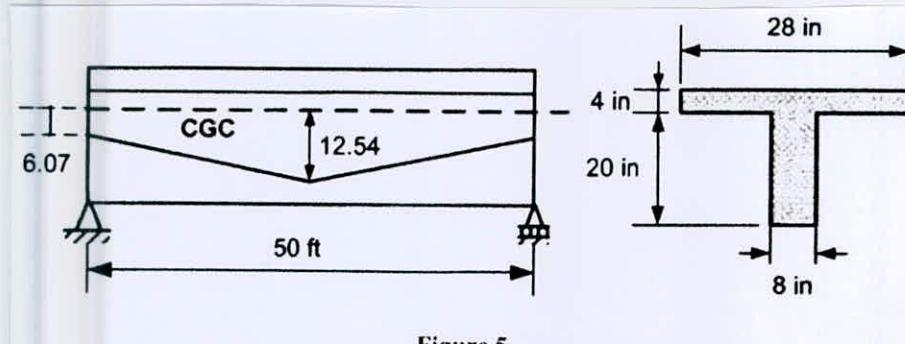

Figure 5
5. Consider the simple supported T beam shown in Figure 5. The live load is assumed to be 600 plf. The following design information is given. Normal weight of concrete with unit weight = 150 pcf, $f'_c = 8000 \text{ psi}$; $f'_{ci} = 5600 \text{ psi}$; ultimate creep coefficient $C_{CU} = 2.2$. The prestressing steel consists of half-inch diameter strands: $f_{pu} = 270 \text{ ksi}$, $f_{pe} = 150 \text{ ksi}$; $f_{py} = 240 \text{ ksi}$; $\eta = 0.80$; $d_{cmin} = 3 \text{ in.}$ Section properties: $A_c = 272 \text{ in}^2$, $I_g = 14970 \text{ in}^4$, $y_t = 9.06 \text{ in}$; $y_b = 14.94 \text{ in}$, $Z_t = 1652 \text{ in}^3$, $Z_b = 1002 \text{ in}^3$, $k_t = -3.86 \text{ in}$, $k_b = 6.07 \text{ in}$. The area of prestressing tendons is 9 strands, i.e., $A_{ps} = 1.377 \text{ in}^2$, at an eccentricity at midspan $e_0 = 12.54 \text{ in}$. The profile of the centroid of the prestressing force is draped at midspan with an eccentricity at support equal k_b .